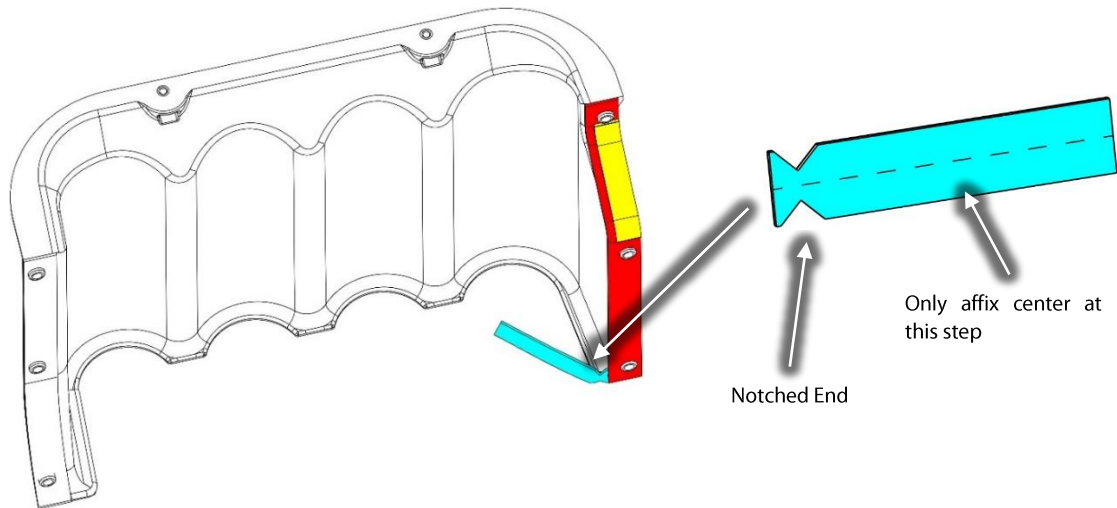

Figure 12 – Capacitor Cover Sealing Foam Lower Left
11. Obtain the shorter (approximately 76 mm long) Capacitor Side Cover Sealing Foam Bottom Left and remove a small portion of the adhesive backing at the notched end and install the Capacitor Side Cover Sealing Foam Bottom Left. It is important to begin where this foam meets the previously installed foam. This new foam must be installed against the existing foam. Refer to Figure 12 (Capacitor Cover Sealing Foam Lower Left).